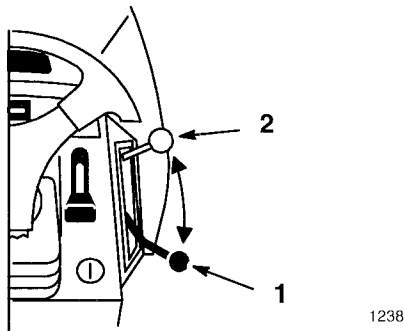

Figure 13
The cruise control is optional on some models. A lever on the dash (Fig. 13) controls the engagement of the cruise feature that maintains the traction control position without foot pressure. Cruise control is intended for operation in the forward direction only. Do not use cruise control in reverse.
1. While holding your foot steady on the traction control, move the cruise control lever (Fig. 13) rearward to the "OFF" position.